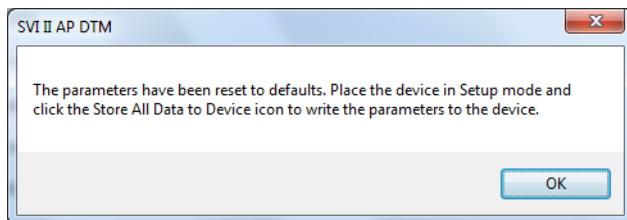

Figure 38 Reset Basic Config and Cal to Defaults Message
2. Click Reset Basic Config and Cal To Defaults \(device data and offline data\) and Figure 38 appears.